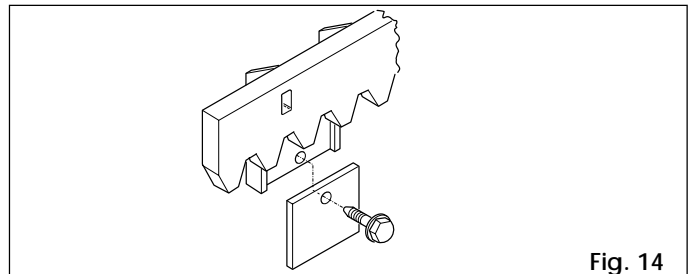

Fig. 14
**4.4.3. CREMALLERA DE NYLON PARA ATORNILLAR (fig. 14)**